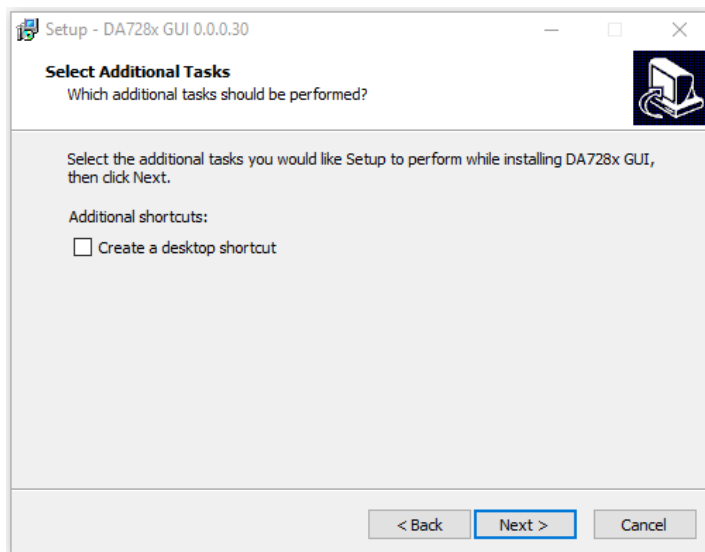

Figure 16. Create a desktop item
- To create a desktop item for the SmartCanvas DA728x GUI, select the **Create a desktop shortcut** checkbox, and click **Next** (Figure 16).